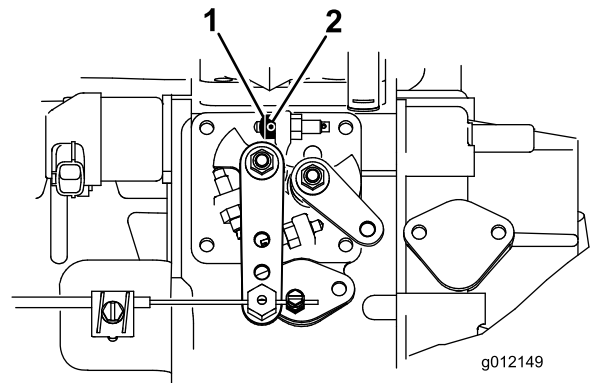

Figure 7
1. Loosen the set screw on the throttle stop (Figure 7).
2. Slide the throttle stop onto the high-idle stop screw (Figure 7). The chamfered end of the throttle stop is to be positioned outward.